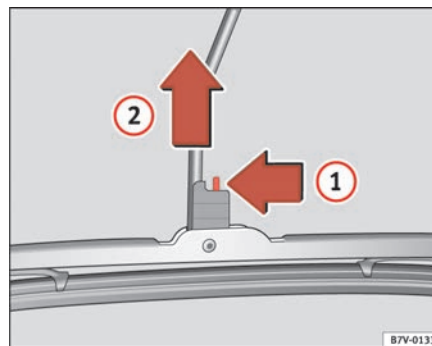

Fig. 147 Changing a rear wiper blade
- Release the wiper blade as shown by arrow ⇒ **fig. 147 ①** and, at the same time, pull the wiper blade as shown by arrow **②**.
- Now take off the wiper blade from the wiper arm in the opposite direction to arrow **②**. ▶
- Insert a new wiper blade **of the same length and design** in the direction of arrow ② and hook the blade back onto the wiper arm.
- Now pull the wiper blade against the direction of arrow ② until it engages.